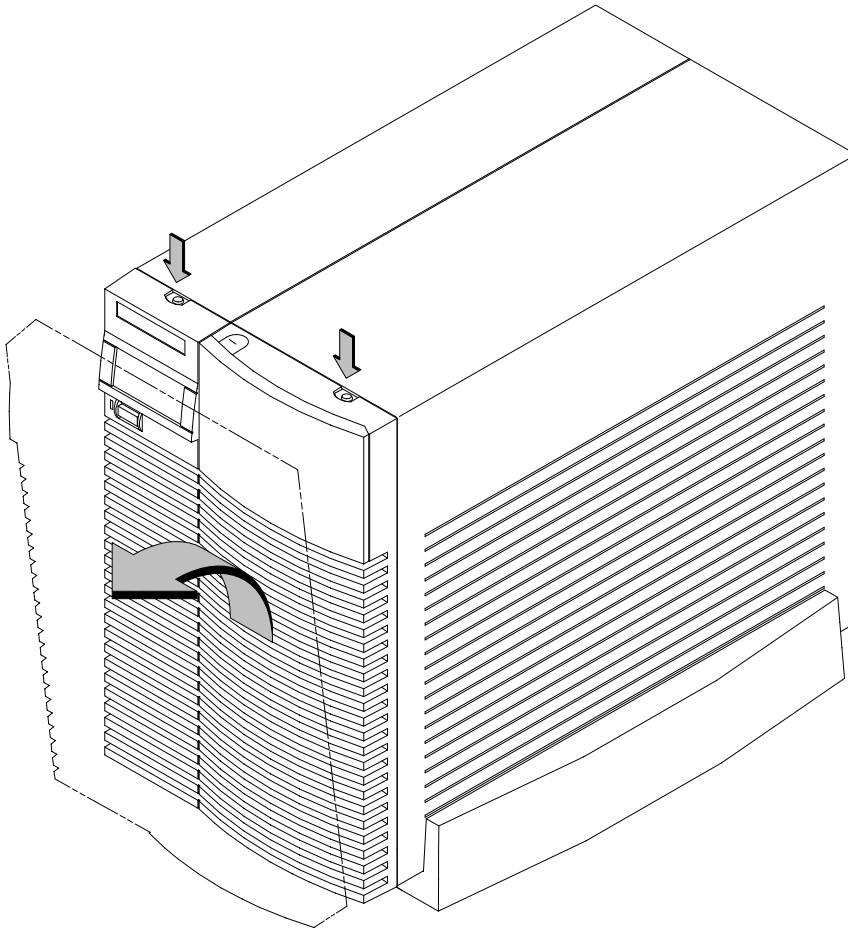

Figure A-1. Removing the Front Panel
- 3.** Press down on the two buttons on the top front of the workstation, releasing the front panel (also known as the front bezel) as shown in Figure A-1.